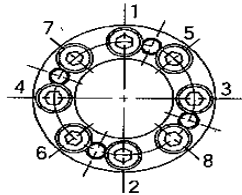

Fig. 5 Tightening sequence for bolts
- Set a torque wrench to approximately 1/4 of the torque MA (refer to the table given below for torque MA) and tighten each of the tightening bolts evenly in the sequence shown in Fig.5.